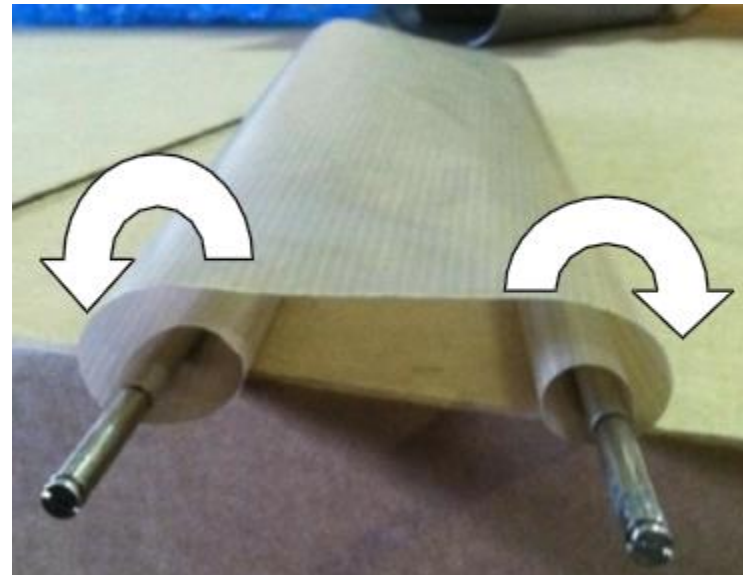

Figure 4-7
5. Repeat for the other end of the PTFE Anti-Stick Sealing Sheet. Be sure the Sheet wraps around the outside of both ends, See Figure 4-7.